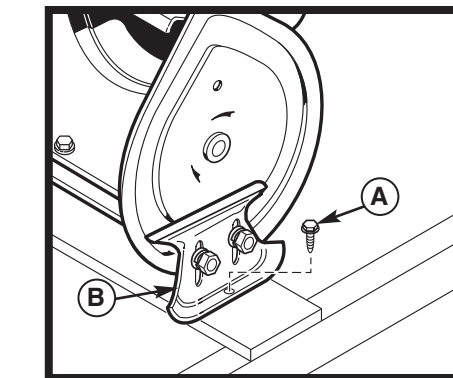

Figure 11
- Remove screws (A, Figure 11) from both skid shoes (B).